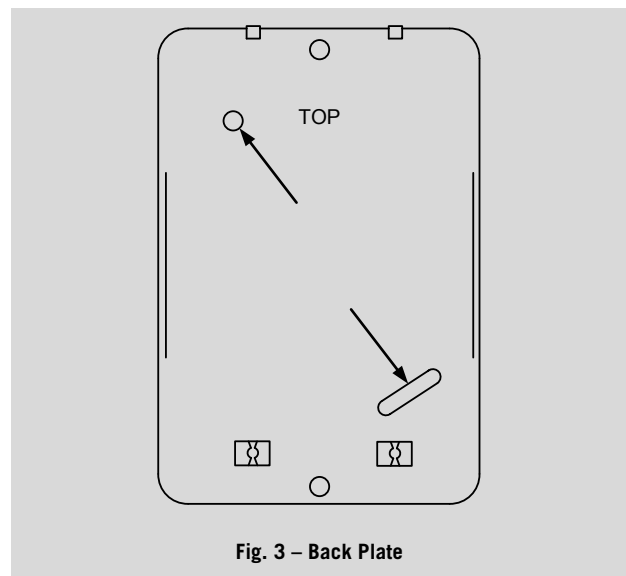

Fig. 3 – Back Plate
- To mount directly to the wall (see Fig. 3 Back Plate), use the back plate of the adjuster as a template to locate the holes. For drywall installation drill two  $\frac{3}{16}$ "/5mm holes, insert the plastic wall anchors (included) and attach the base plate of the adjuster using the screws provided.
- To mount onto a standard 2x4 electrical box use the holes top and bottom and connect directly to electrical box (see Fig. 3 Back Plate).